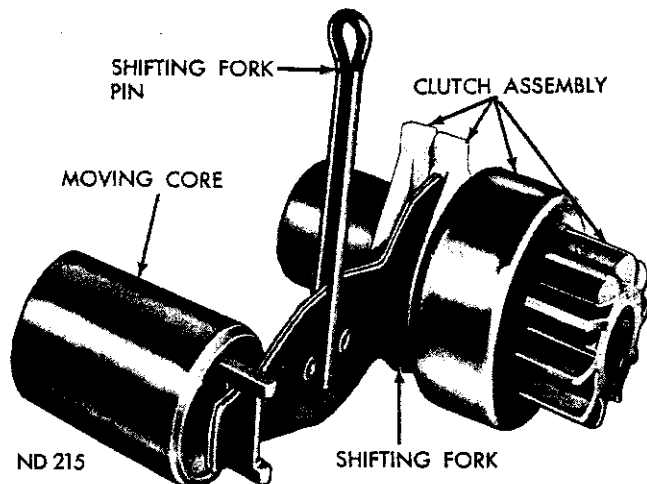

Fig. 17—Shifter Fork and Clutch Arrangement
(5) Complete installation of pinion shaft, engaging shifting fork with clutch actuators. Figure 17 shows correct relation of parts at assembly. The friction washer must be positioned on shoulder of splines of the pinion shaft before driven gear is positioned.